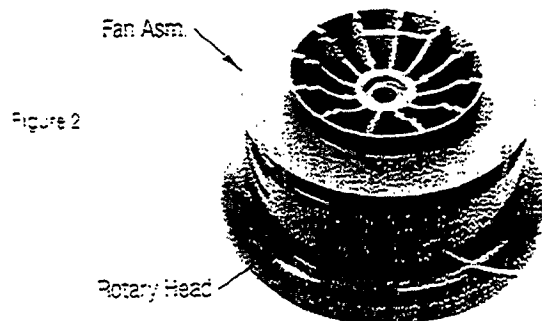
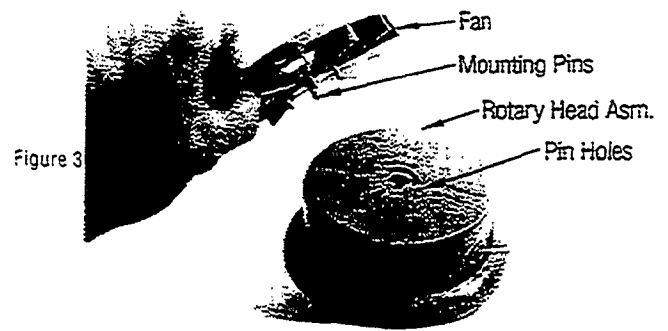

Figure 2
Figure 3
- Make sure fan is installed onto the top of the rotary head (Fig. 2). If not, mount fan by aligning the four pins on the fan with the four holes in the top of the rotary head and push together (Fig. 3).